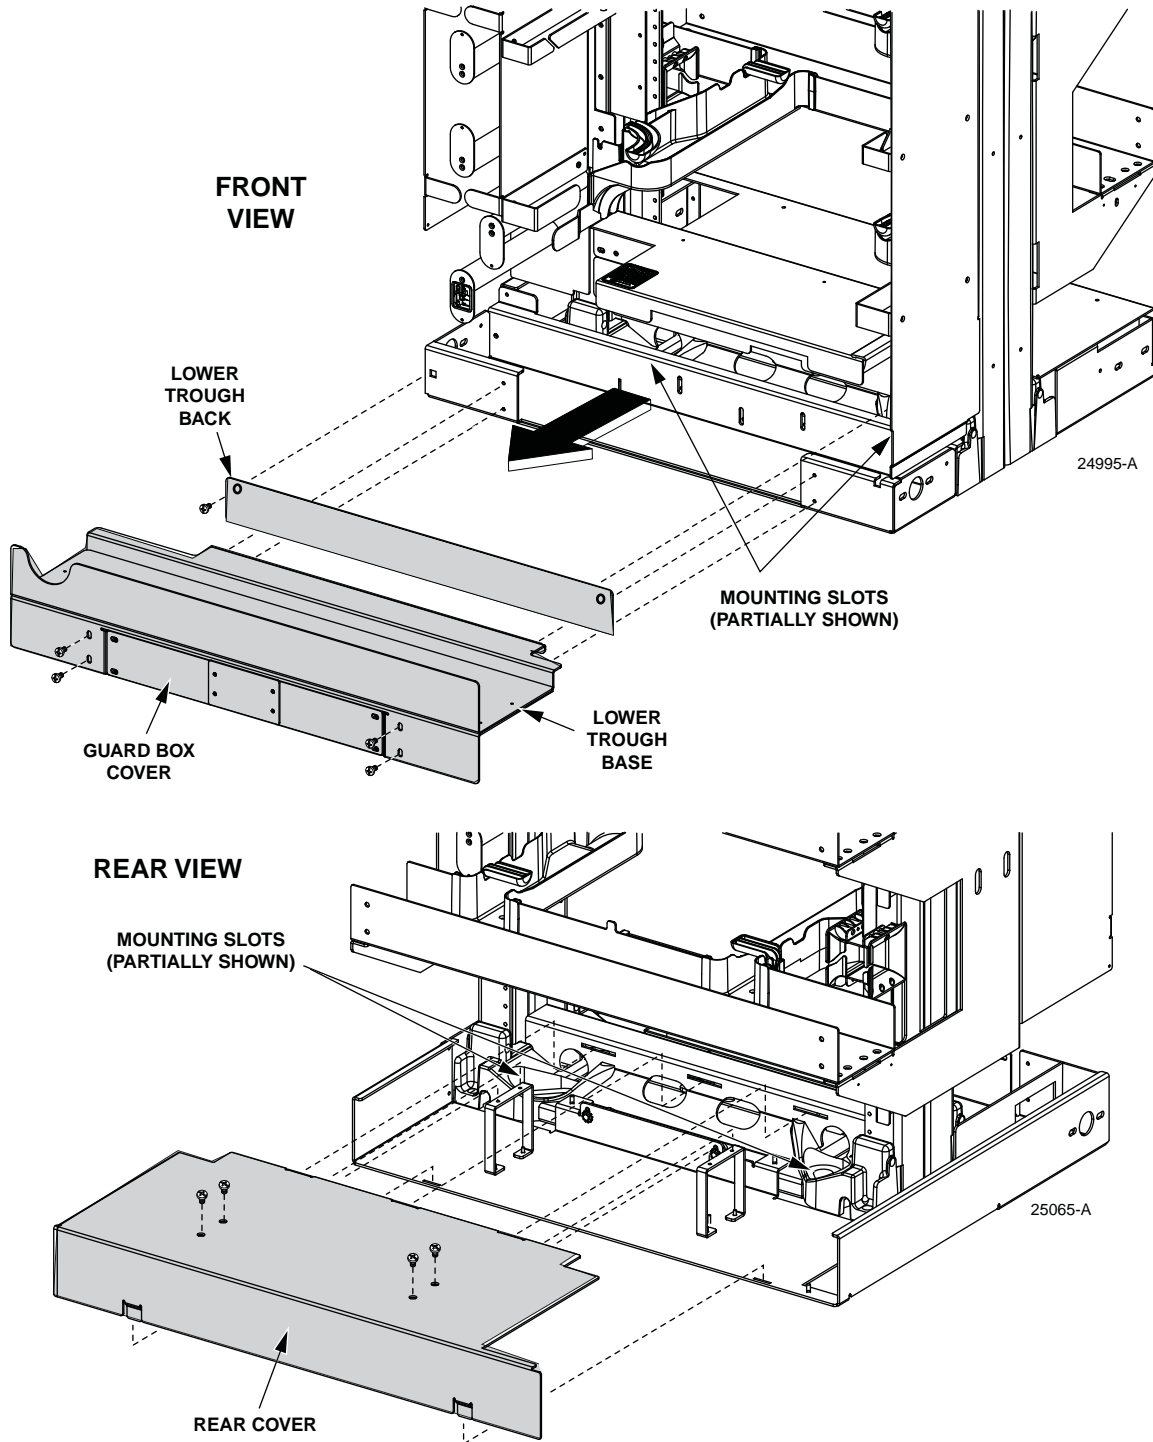

Figure 22. Removing Troughs
21. Remove the frame front and rear troughs to access mounting slots. Refer to Figure 22. (*Caution: Do not attempt to lift or move the frame without appropriate equipment.*)